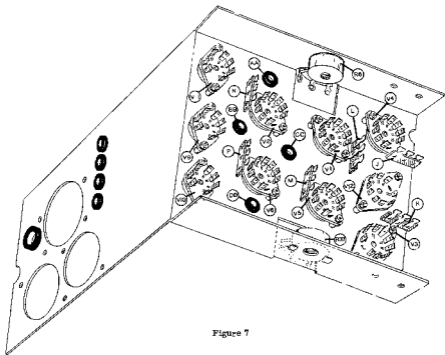

Figure 7
Refer to Figure 7 for the following steps.
- (1) Locate the chassis, orient as shown, and install the four 5/16" rubber grommets AA, BB, CC and DD. See Figure 7.
- (2) Install the remaining four 5/16" rubber grommets in the four holes in the upper chassis apron.
NOTE: Be sure that the blank spaces in all tube sockets face in the directions shown in Figure 7.
- (7) Cut off the end of each lug of a 9-pin tube socket as shown in Detail 7B. Now mount this socket, V12, as shown in Figure 7.
- (8) RS. Mount a 10 K Ω linear tab mounting control (#10-57) at R6 with the lugs facing through the top of the chassis. See Detail 7C.